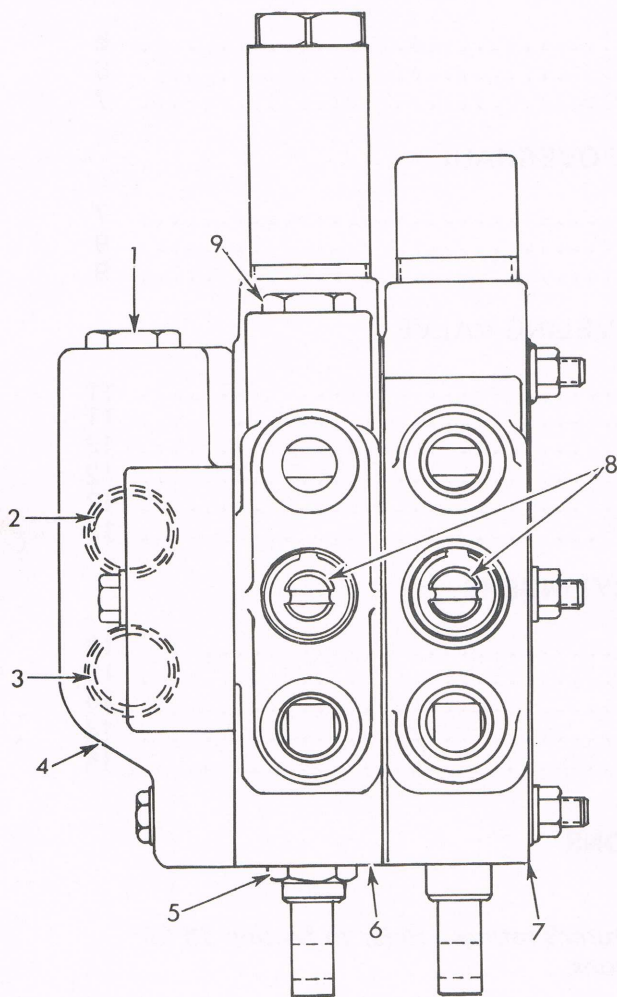

Fig. 1
GENERAL (Refer to Fig. 1)
(2) of the end cover to the cooler and pump suction manifold. See Fig. 1.
The drop check valves (8) prevent backflow of fluid when a control valve is actuated and circuit pressure is greater than initial system pressure. See Fig. 1.